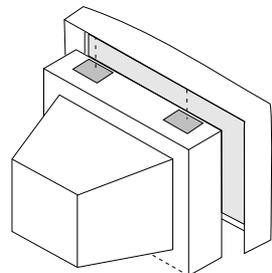

Figure 3. Attaching Hook-and-Loop Fasteners
- 2 Determine the location of the panel on the monitor. Gently place the panel centered in front of the monitor as shown in Figure 3.